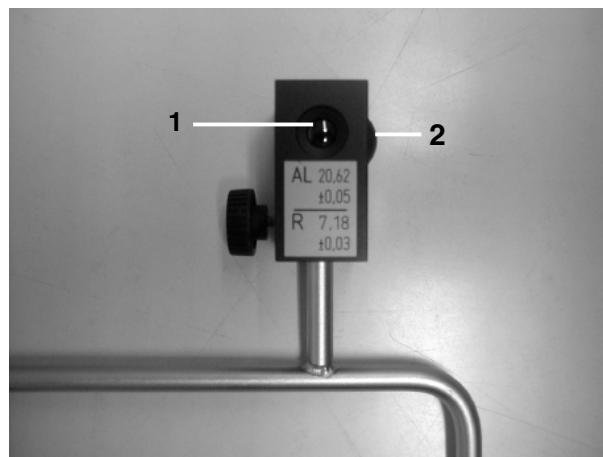

Fig. 4
Perform the measurements of axial length and corneal curvature using the test eye on the front of the housing ((1) Fig. 4), and the measurement of the depth of the anterior chamber using the test eye on the side of the housing ((2) Fig. 4).